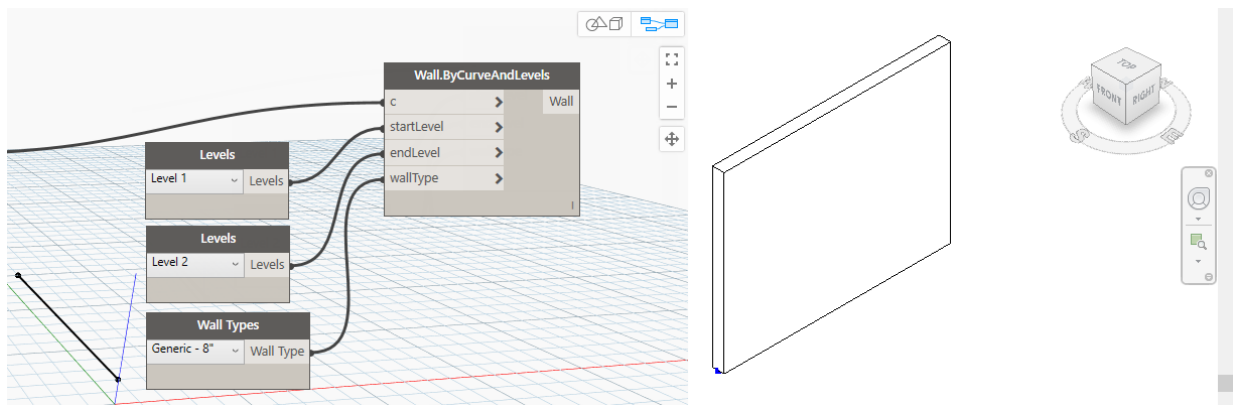

Figure 22
This node has four inputs: c stands for "curve." To make a wall, we need a path for it follow. In programmer speak this is called a "curve." This is "curve" in the math class sense of the word. So our line counts as a "curve." As does anything with two endpoints; either a straight line or a curvy line and Dynamo still thinks of it as a curve⁵. We also need two levels to set the height and a wall type. Another useful habit to get into is to pause your mouse over the various inputs for a tooltip indicating more information on what that input expects (see Figure 22).
27. Choose: **Level 2** from the next one and wire it to: endLevel and then choose any wall type and wire it to the wallType port (see Figure 22).